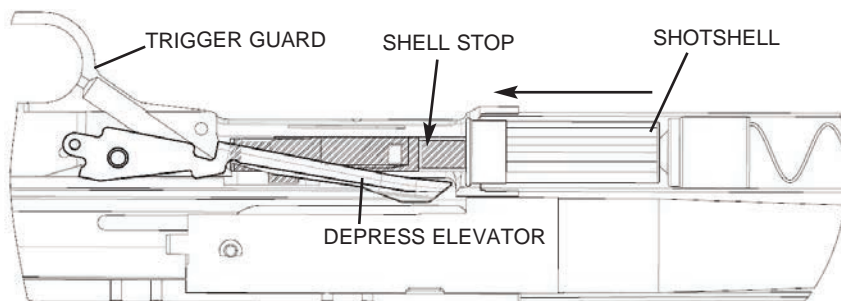

Figure 8
1. First, remove the shotshells from the magazine tube. With the safety button fully rearward in the "ON" (SAFE) position, turn the firearm so that the trigger guard is facing upward (Figure 8).
2. Keeping the muzzle pointed in a safe direction, depress the elevator (Figure 8).
3. While holding the elevator down with your thumb, press and release the shell stop (Figure 8). This will release one shotshell from the magazine tube under spring pressure.